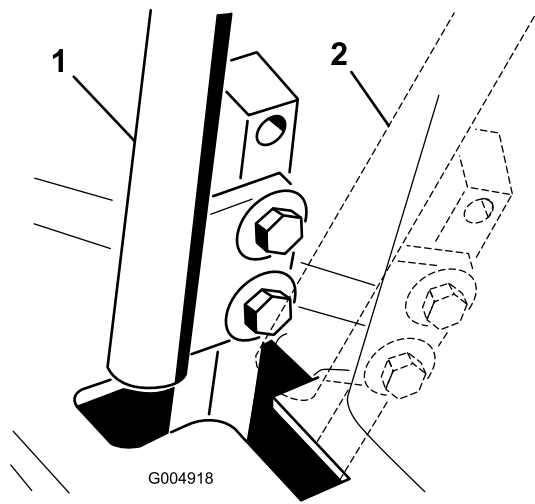

Figure 84
4. Move the control lever to the NEUTRAL position but **not locked** (Figure 84).
6. Check where the control lever is relative to notch in console (Figure 84).